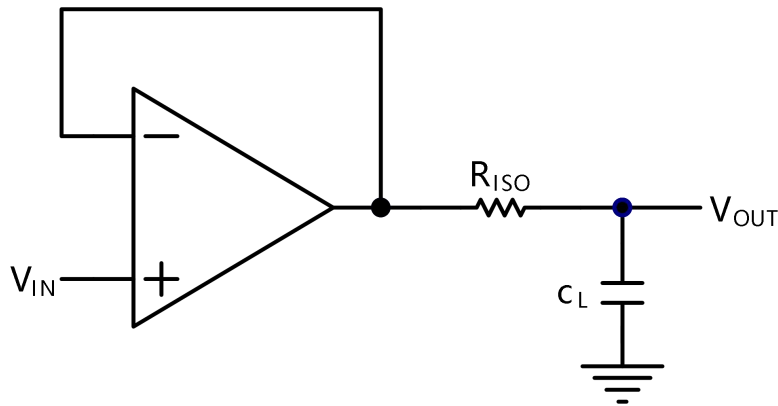
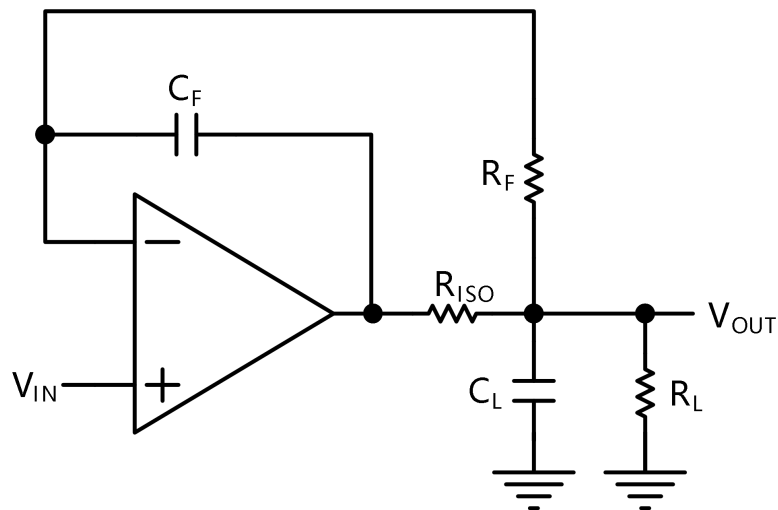

Figure 2. Indirectly Driving a Capacitive Load Using Isolation Resistor
Figure 3. Indirectly Driving a Capacitive Load with DC Accuracy
The CBM863x family is optimized for bandwidth and speed, not for driving capacitive loads. Output capacitance will create a pole in the amplifier's feedback path, leading to excessive peaking and potential oscillation. If dealing with load capacitance is a requirement of the application, the two strategies to consider are (1) using a small resistor in series with the amplifier's output and the load capacitance and (2) reducing the bandwidth of the amplifier's feedback loop by increasing the overall noise gain. Figure 2. shows a unity gain follower using the series resistor strategy. The resistor isolates the output from the capacitance and, more
The circuit in Figure 3 is an improvement to the one in Figure 2.  $R_F$  provides the DC accuracy by feed-forward the  $V_{IN}$  to  $R_L$ .  $C_F$  and  $R_{ISO}$  serve to counteract the loss of phase margin by feeding the high frequency component of the output signal back to the amplifier's inverting input, thereby preserving the phase margin in the overall feedback loop. Capacitive drive can be increased by increasing the value of  $C_F$ . This in turn will slow down the pulse response.